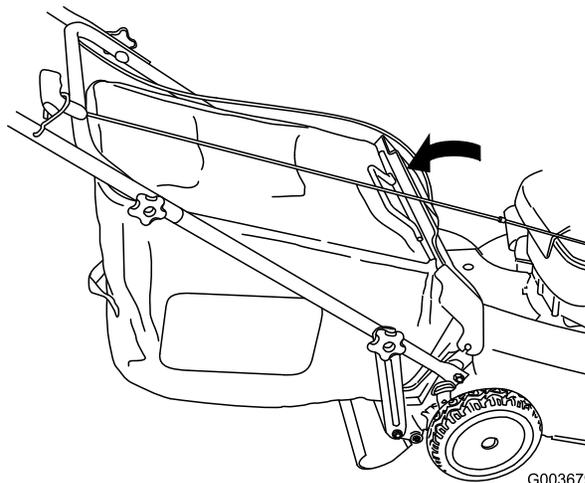

Figure 27
4. Lower the rear door (Figure 27).